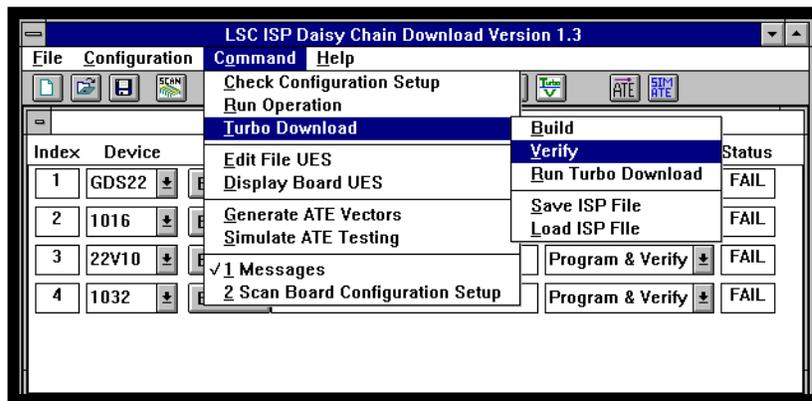

Figure 3-17. **Command** ⇒ **Turbo Download** ⇒ **Verify** Menu Item
2. Select **Command** ⇒ **Turbo Download** ⇒ **Verify** or the **Turbo Verify** icon from the ISP Daisy Chain Download menu (Figure 3-17).